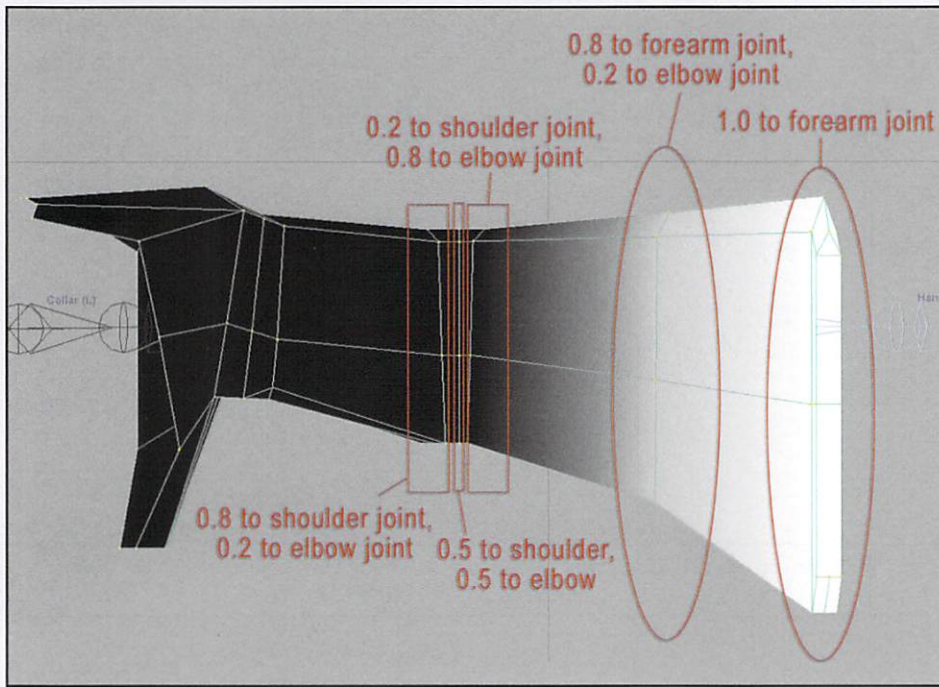

FIGURE 3—VALUES FOR SMOOTH BOUND SKIN WHICH I ENTERED MANUALLY INTO THE COMPONENT EDITOR
0.2 to the elbow. The vertices around the shoulder are set up in a similar fashion to the elbow weights I've described, but with the weights being shared by the shoulder and collar joints (see figure 3).